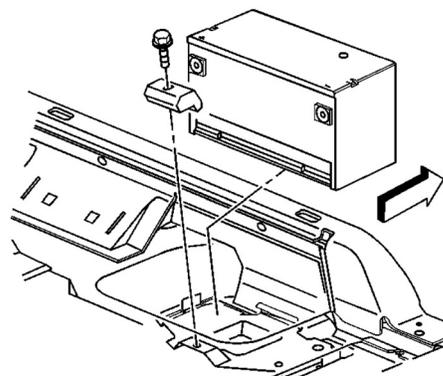

Fig. 4 Battery retainer & retainer bolt
9. Remove battery retainer bolt and battery retainer, **Fig. 4**.
1. Install battery, **Fig. 4**. **Torque** bolt to 13 ft. lbs.